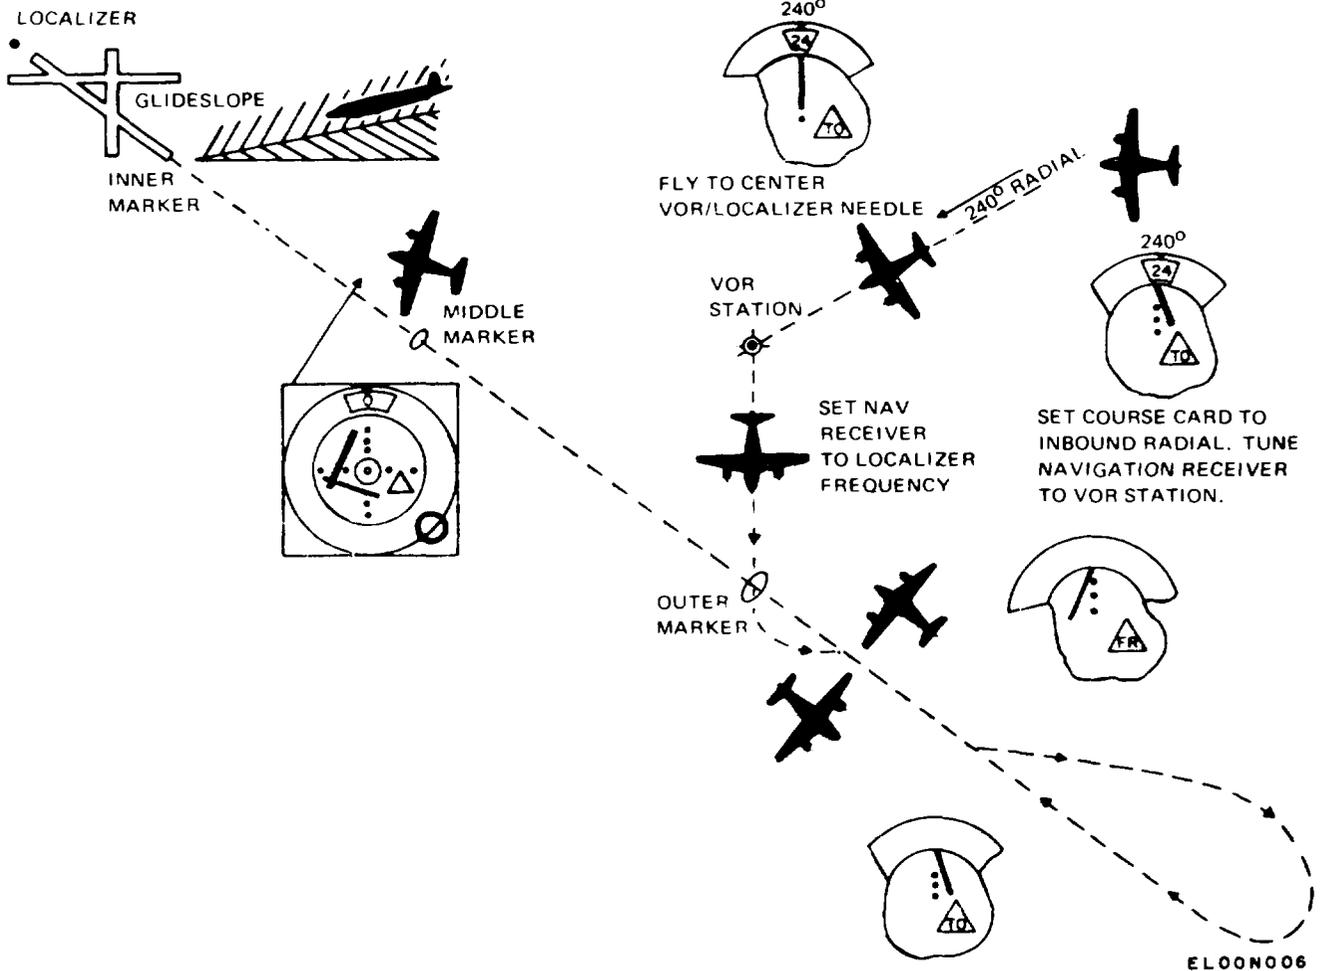

Figure 2-4. ILS Approach.
(6) After the runway comes into view, make a final approach and landing,
*a. ILS Approach.* The ILS approach is executed when the desired landing runway has ILS facilities and the VOR station is not in line with the desired runway (fig. 2-4). Proceed as follows: